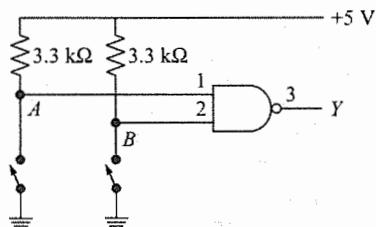
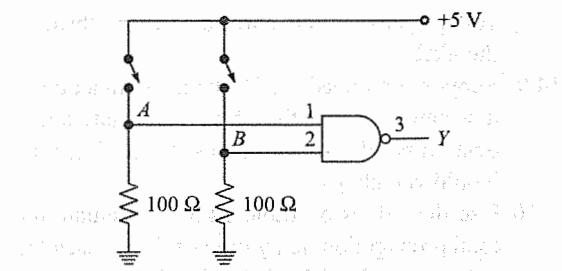

Fig. 14.52
Fig. 14.53
- 14.27 In Fig. 14.52, what does output *Y* equal when each switch is open? When either switch is closed?
- 14.28 What is the current drain through the pull-up resistors when both switches are closed in Fig. 14.52? What is the time constant for each input when the switches are open?
- 14.29 In Fig. 14.53, what does the output *Y* equal when either switch is open? When both are closed? This is not a preferred method of driving TTL loads. Try to figure out two reasons why this circuit is not as good as the circuit shown in Fig. 14.52.